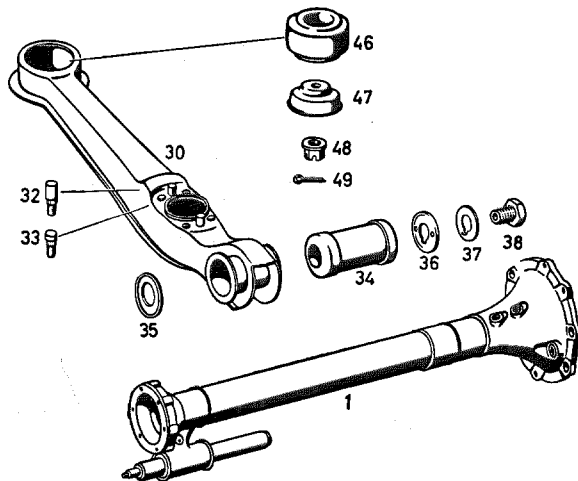

Fig. 35 — 4/8
29. Tap up the locking plate (37) and unscrew the hexagon screw (38) Fig. 35 — 4/8).